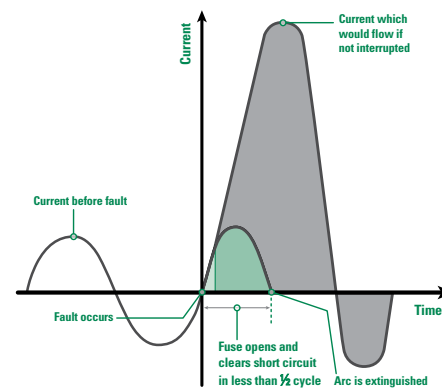

Figure 13 – Current-limiting Fuse
**Current-limiting Fuse** (See Figure 13) – A fuse which, when interrupting currents within its current-limiting range, reduces the current in the faulted circuit to a magnitude substantially less than that obtainable in the same circuit if the device was replaced with a solid conductor having comparable impedance. To be labeled "current limiting," a fuse must mate with a fuse block or fuse holder that has either a rejection feature or dimensions that will reject non-current-limiting fuses.